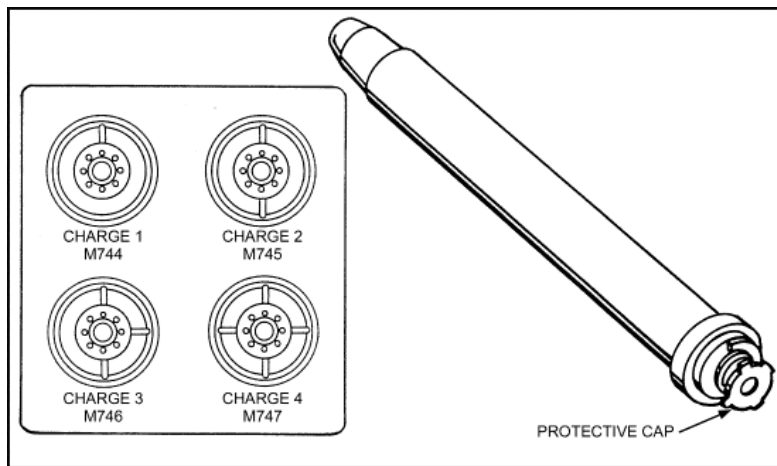

Figure A-11. Subcaliber cartridge. Figure 1.
- a. The sabot is designed to fire the subcaliber cartridge (Figure A-11) through the barrel. The subcaliber cartridge, when loaded into the sabot, approximates a round of service ammunition both in size and weight. The entire assembly is then fired